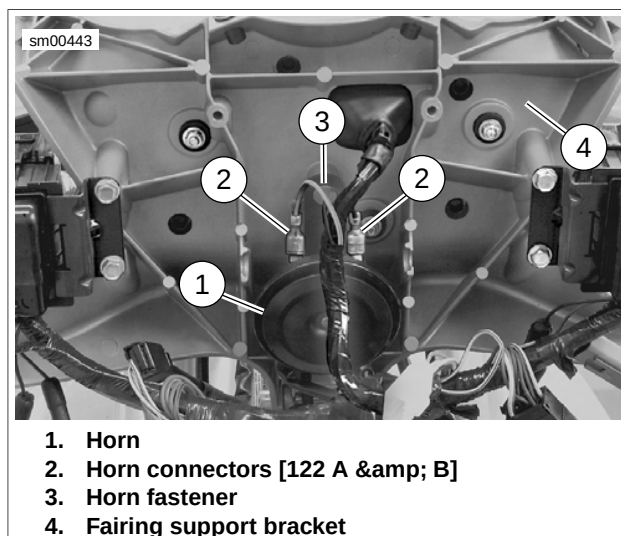
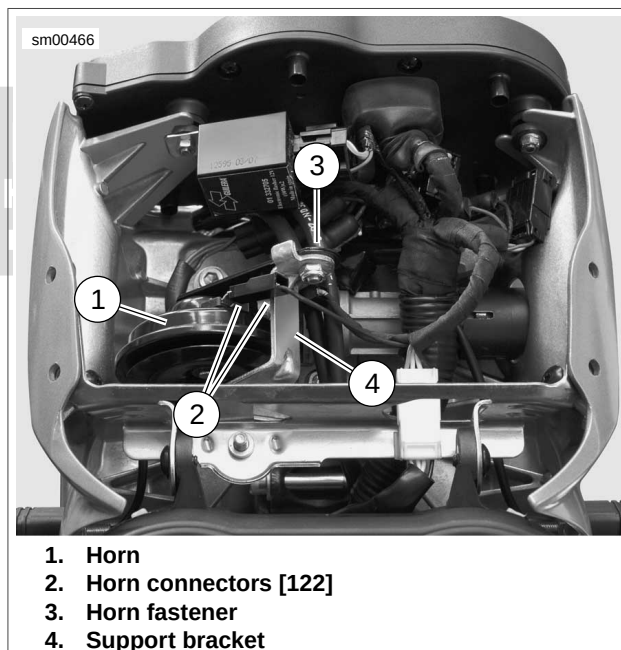
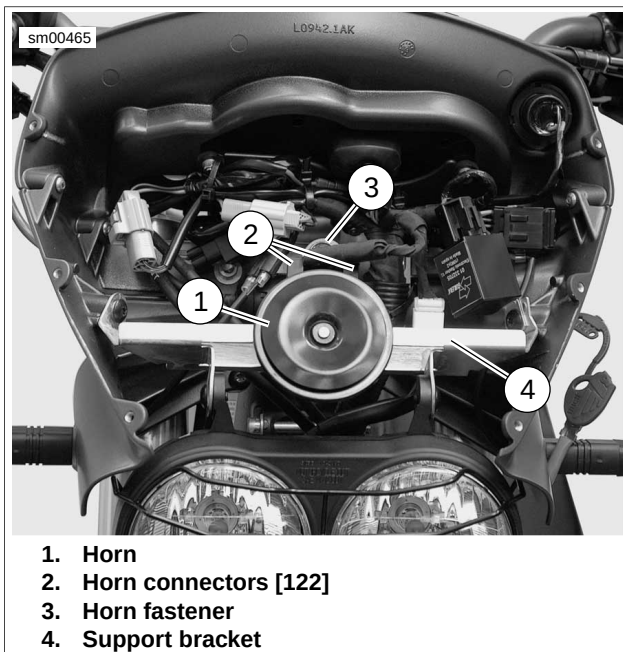
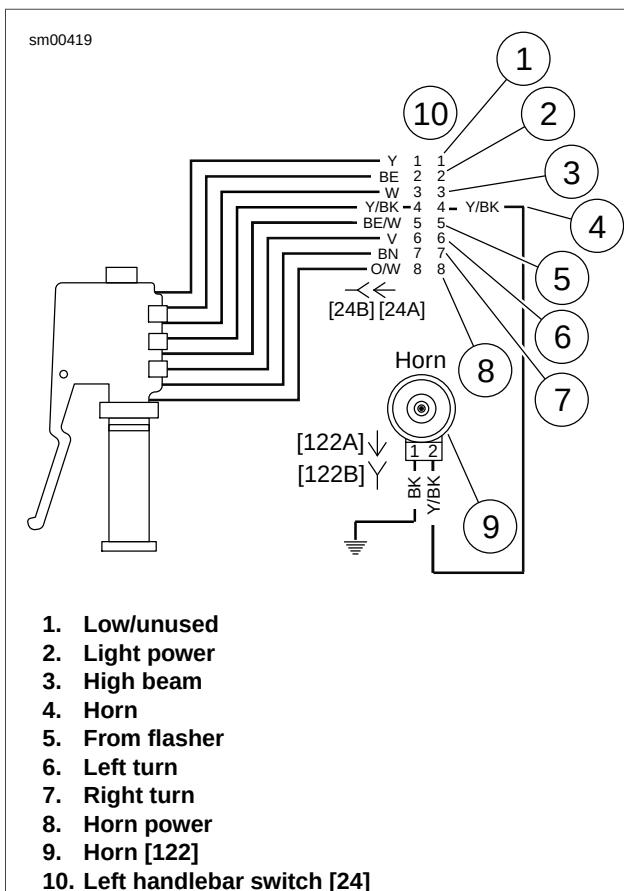

Figure 7-36. Horn Assembly: Firebolt (Typical)
Figure 7-37. Horn Assembly: Lightning
Figure 7-38. Horn Assembly: Ulysses
Figure 7-39. Horn Wiring
4. See Figure 7-36 (Firebolt), Figure 7-37 (Lightning) or Figure 7-38 (Ulysses). Remove fastener (3).
5. Remove horn (1) from support bracket (4).
6. See Figure 7-39. Detach Y/BK power wire and BK ground wire from terminal clips on horn.
1. See Figure 7-39. Connect Y/BK power wire and BK ground wire to terminal clips on horn.
2. See Figure 7-36 (Firebolt), Figure 7-37 (Lightning) or Figure 7-38 (Ulysses). Attach horn (1) to support bracket (4) using fastener (3). Tighten to 72-96 in-lbs (8.1-10.8 Nm).
- See Figure 7-39. Remove Y/BK power and BK ground wires from terminal clips.